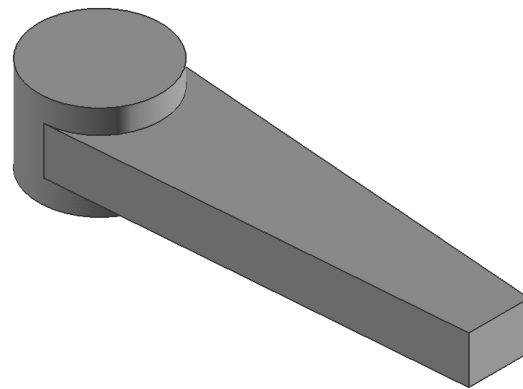

Figure 8-63 The model after creating the second feature
- c. Draw the sketch for the second feature and extrude the same, refer to Figure 8-63.
6. Choose the **OK** button to create the second feature. The resulting model is shown in Figure 8-63.